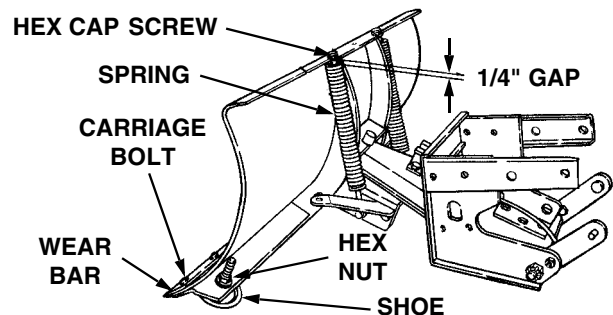

Figure 18
Adjust the skid shoes (See Figure 18) to the appropriate position for the job being performed as follows:
3. If the wear bar (See Figure 18) becomes worn, reverse or replace the bar as follows:
4. Maintain the proper trip spring tension (See Figure 18) as follows: